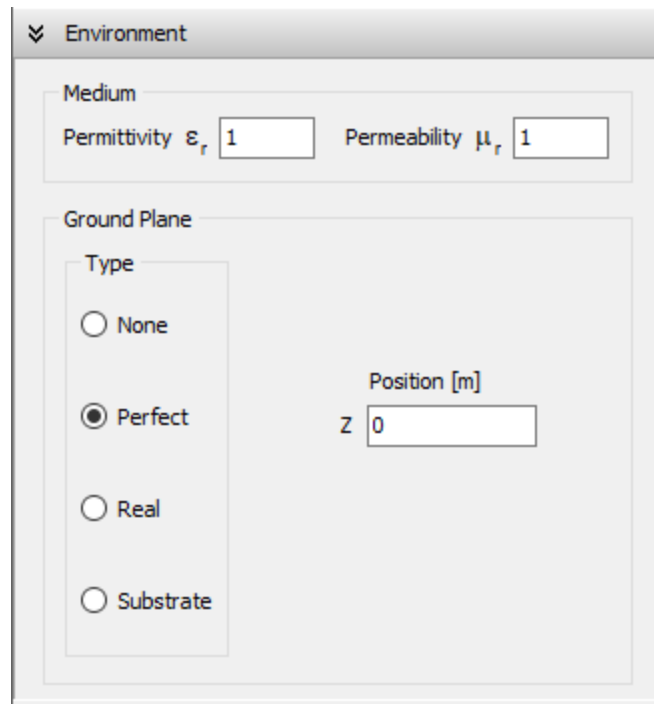

Fig. 1: Perfect option in the Ground Plane box of the Environment panel.
2. Select the **Perfect** option in the **Ground Plane** box (see **Fig. 1**).